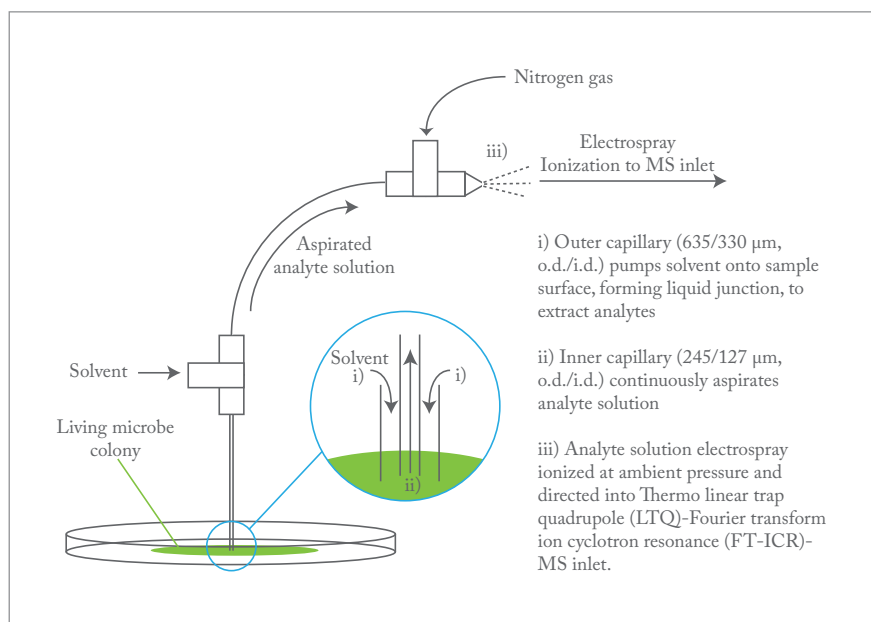

Fig 1. Real-time MS analysis of microbial colonies using coaxial flow probe and ambient electrospray ionization.
To achieve their goal, researchers in Dorrestein's lab at the University of California, San Diego are directly sampling analytes of living microbe colonies ahead of electrospray ionization (ESI) and tandem mass spectral analysis (1). The key component is a liquid microjunction surface-sampling probe (LMJ-SSP). It is based on a device developed by Van Berkel at Oak Ridge National Laboratory, which comprises two co-axial capillary tubes that simultaneously deliver and aspirate solvent (see Figure 1).